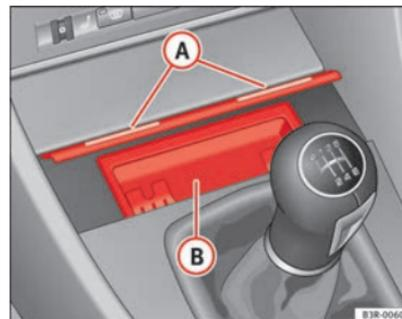

Fig. 121 Centre console: Open ashtray
- Lightly press the front part of the ashtray (A) ⇒ Fig. 121.
- Take hold of the sides of the ashtray (B) ⇒ Fig. 121 and lift it out.